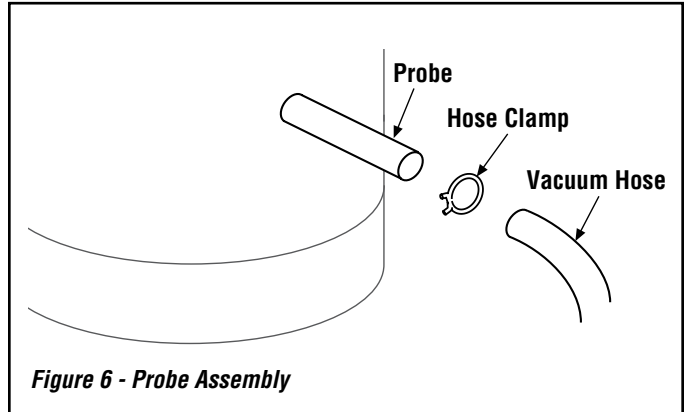

Figure 6 - Probe Assembly
- 5.5. Secure the **vacuum hose** [#2] to the probe on the **probe assembly** with one of the provided **hose clamps** [#10] (**Figure 6**).